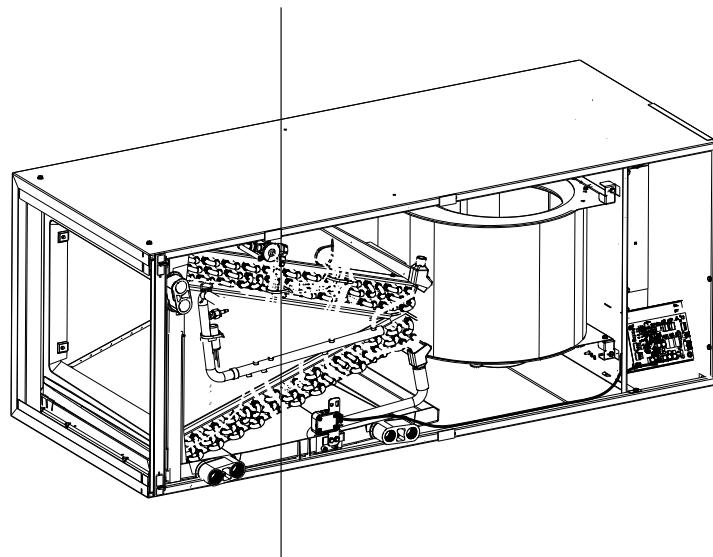

Fig. 7 – Conversion for Horizontal Right Applications - A-Coil
1. Remove blower and coil access panels and fitting panel (Fig. 7).
1. Remove blower and coil access panels (Fig. 7).
- a. Remove air seal assembly from coil by removing 4 screws (Fig. 7).
- b. Remove air splitter (B) from coil seal assembly by removing 3 screws (Fig. 7 inset).
- c. Remove filler plate (A) and install air splitter (B) in place of filler plate.
- d. Install filler plate (A) as shown in horizontal right application.
- e. Remove condensate troughs (C) and install on opposite tube sheets.